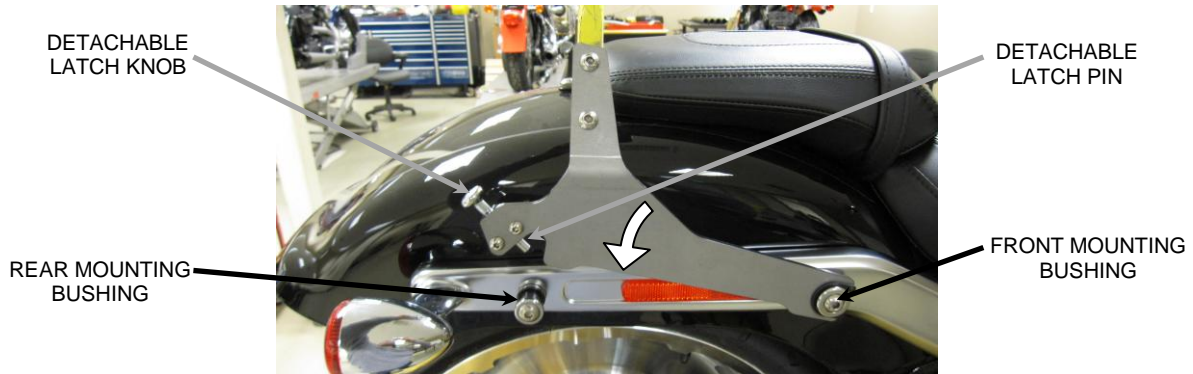

FIGURE 4
- Install the sissy bar onto the bike by first inserting the front portions of the side brackets on to the front mounting bushings on the frame rails. Make sure the sissy bar is seated all the way onto the mounting bushings. See **FIGURE 4**.
- Then slowly rotate the sissy bar downward so the rear portions of the brackets slip over the rear mounting bushings. See **FIGURE 4**.